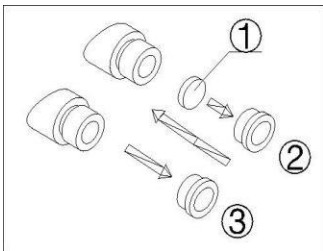

Fig.5
- 1) Turn and remove the mounting ring(2) from the eyepiece. (Fig.5)
- 2) Clean the eyepiece micrometre(1) and mount it to the mounting ring with the inscription side downward.
- 3) Gently twist the mounting ring with the eyepiece micrometre into the eyepiece till tightening(2) securely.
- 4) To remove the eyepiece micrometre, take down the mounting ring(3) by twisting and take out of the micrometre, and then wrap it.